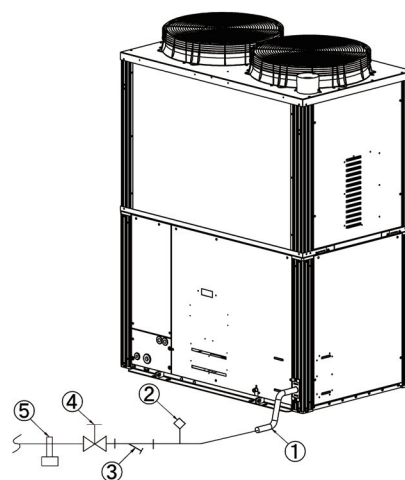

Fig. 12-1 Fuel Pipe Structure Diagram
(2) Fuel piping work
As needed, attach devices ②, ③ or ⑤ to the outdoor unit external fuel gas pipe. (Fig. 12-1)
① Flexible gas hose ② Pressure release tap ③ Strainer ④ Master valve ⑤ Pipe bracket